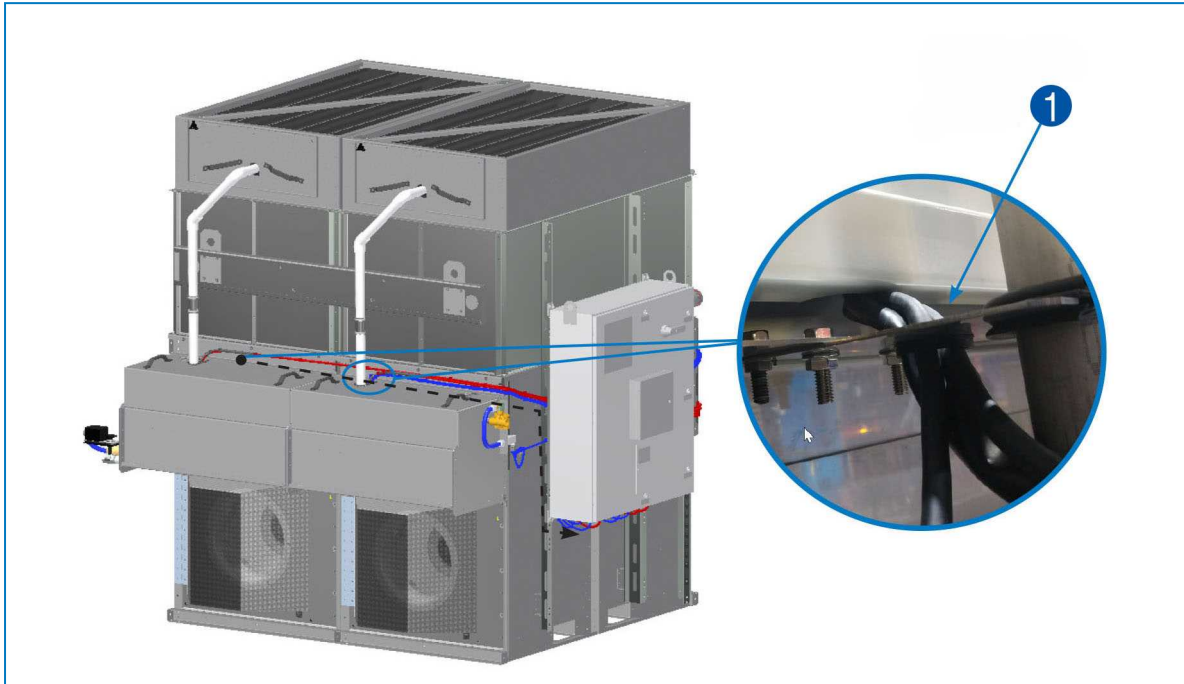

Fig. 18 Pump wire to the iPilot™ Control System panel - 1. Pump wiring through grommet.
8. Route pump wire through grommet at top of spray water basin. Follow wire path toward the control panel end. Pull pump wire through top oblong hole with edge trim on control panel mount channel. Pull each wire through individual cord grips at the bottom of the control panel, then connect each wire to the correct terminal block. Please follow wire diagram located within the control panel. See figure 18.